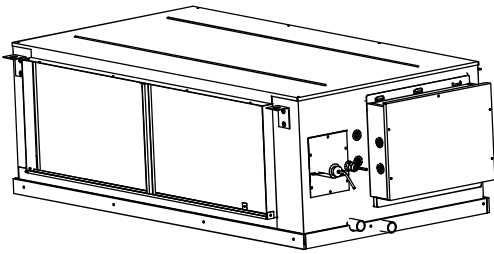

Fig.9-1
- 1) Remove the screws around the base of air conditioner till the base can be removed. (Fig.9-1,9-2)